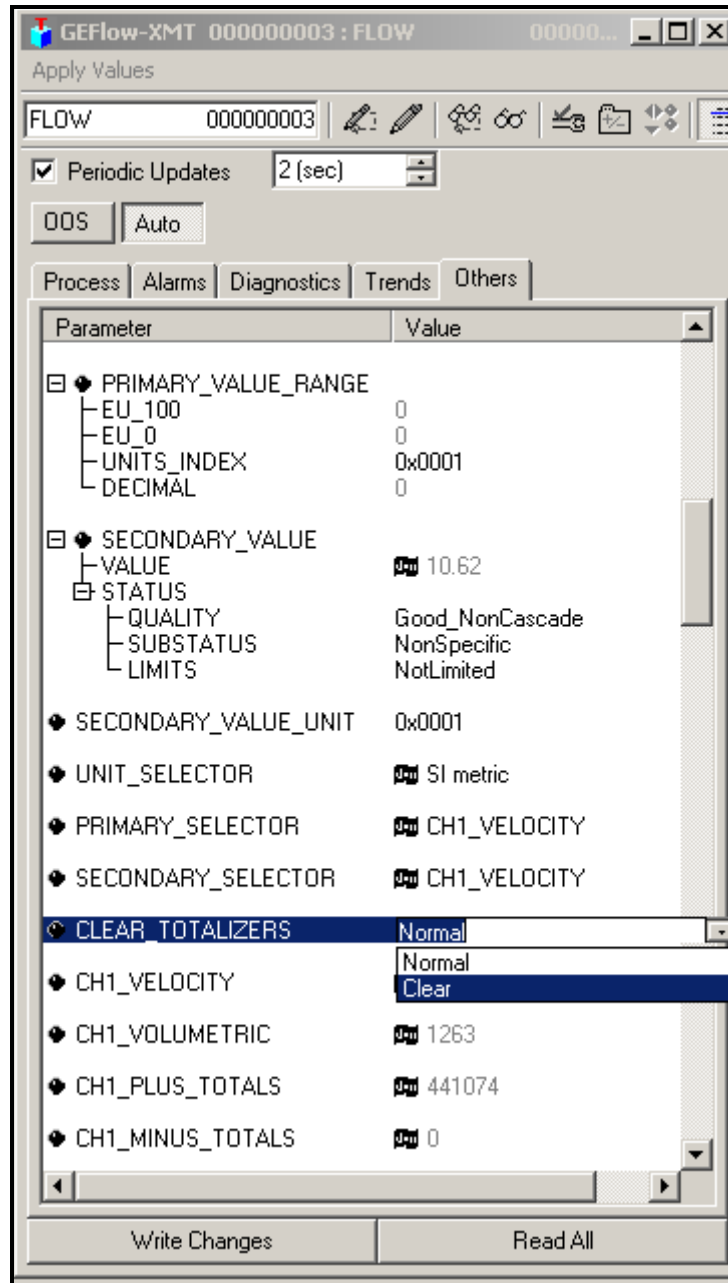

Figure 43: Clear Totalizers Drop Down List
7. Select **Clear** from the drop down list box (see Figure 43 below).